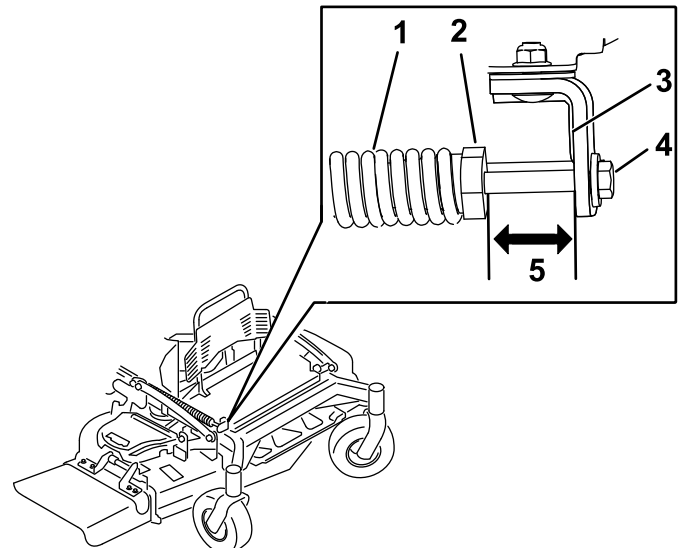

Figure 85
2. Check the distance between the spring nut and the rear side of the welded mount bracket (Figure 85).
3. Ensure that the length is between 64 to 89 mm (2.5 to 3.5 inches) as shown in Figure 85.
4. If needed, adjust the distance by adjusting the bolt on the front of the mount bracket (Figure 85).